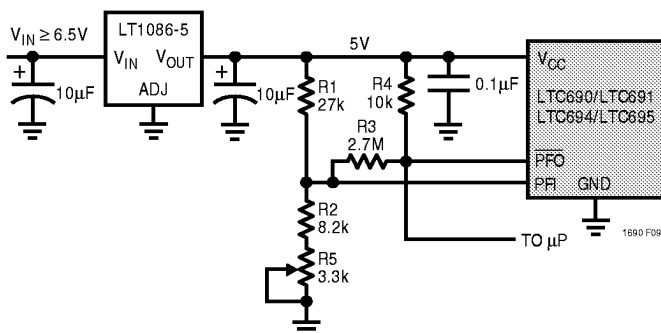

Figure 9. Monitoring *Regulated* DC Supply with the LTC690's Power-Fail Comparator
**Example 2:** The circuit in Figure 9 can be used to measure the regulated 5V supply to provide early warning of power failure. Because of variations in the PFI threshold, this circuit requires adjustment to ensure the PFI comparator trips before the reset threshold is reached. Adjust  $R5$  such that the  $\overline{\text{PFO}}$  output goes low when the  $V_{CC}$  supply reaches the desired level (e.g., 4.85V).